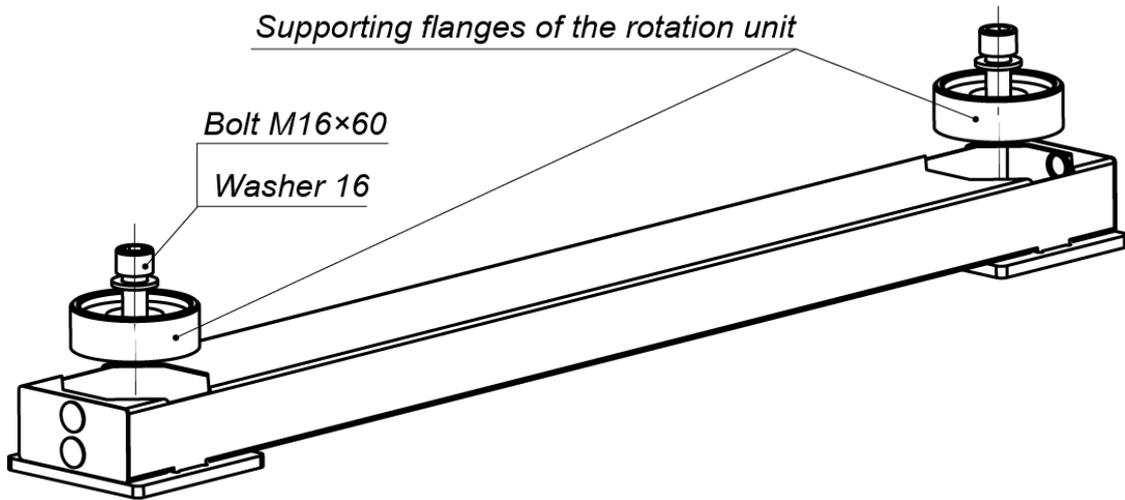

Figure 13. Fixation of the lower support on the mounting surface
10. Unpack the lower support of rotors (11) (box №6) and place it on the fixing holes with M16 anchor bolts (Fig. 13). Unpack the bottom bearing rotation units the bottom bearing rotation units (3) (inserted in the lower support). Insert supporting flanges of the rotation unit into the relevant places of the support and fix the lower support on the